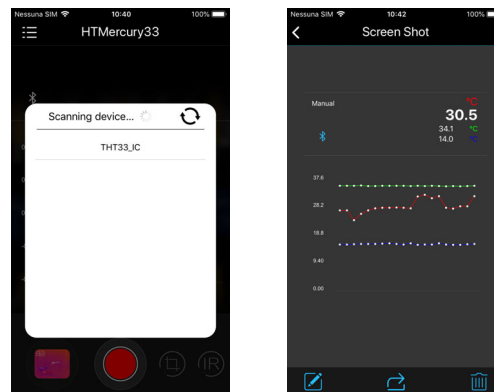

Fig. 20: Communication with the APP HTMercury
4. Search for the instrument in the APP (see Fig. 20 – left side).
5. Real-time display of temperatures (central spot, hottest spot, coldest spot) of the image is available on the mobile device (see Fig. 20 – right side) and it is possible to save the screens from the APP's internal menus. It is also possible to save screens of thermographic images (see Fig.20) and insert items onto them for advanced analyses (see the Help on line of the APP for further details)